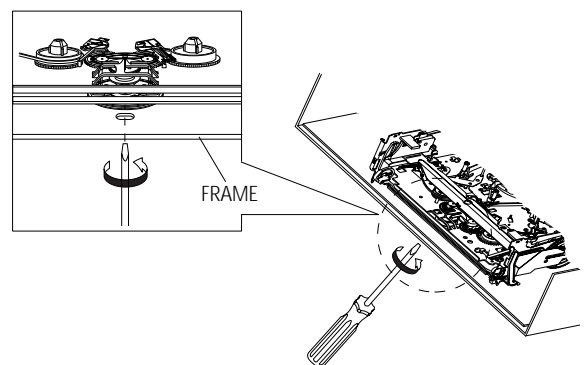

Fig. 5-43
- 2) When Slider S,T are approached in the position of unloading, rotate holder Clutch counterclockwise after inserting screw driver in the hole of frame's bottom in order to wind the unwinded tape. (Refer to Fig.5-43)